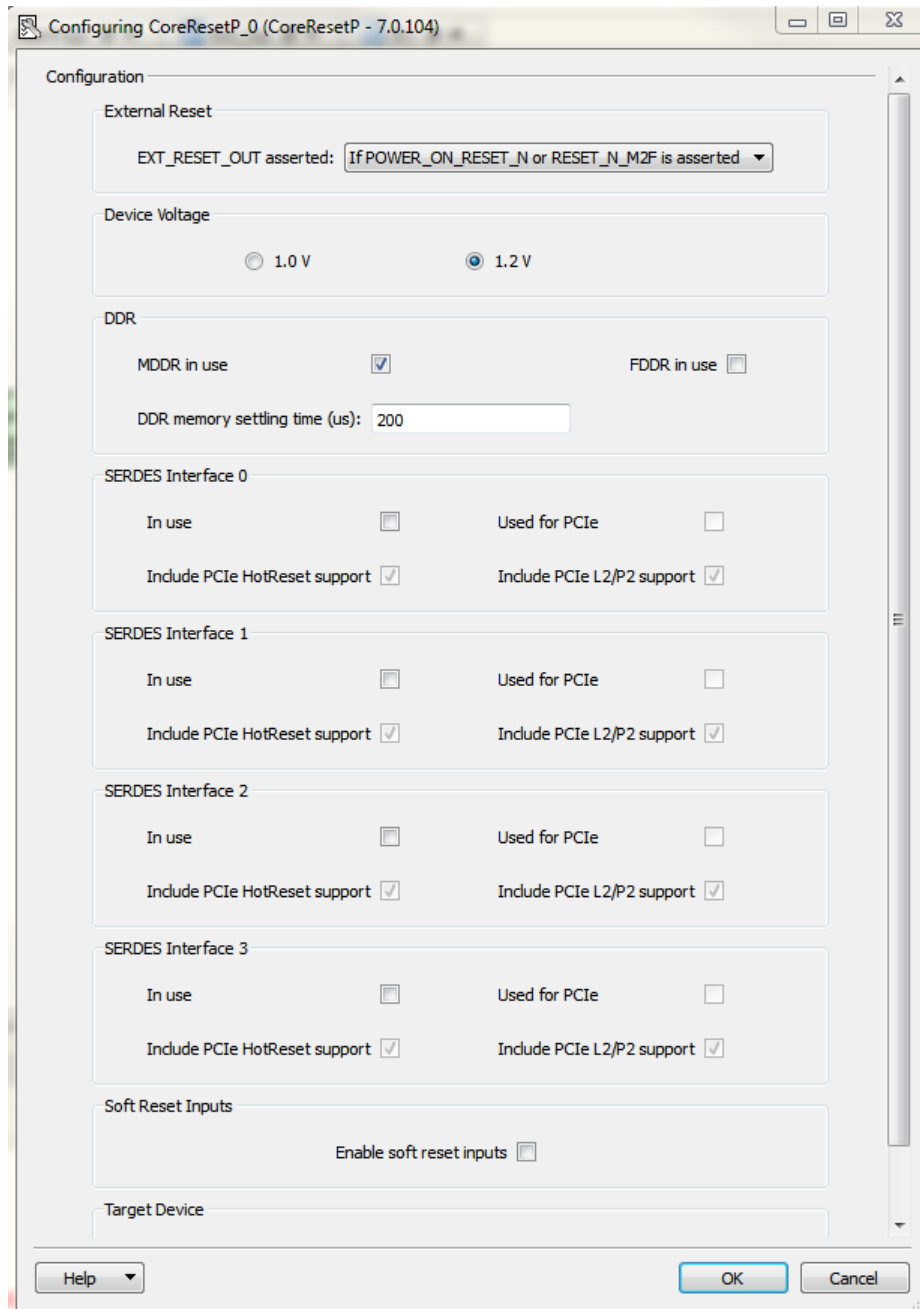

Figure 38. CoreResetP Configurator
2. Double-click the core inside the SmartDesign Canvas to open the Configurator (Figure 38 – CoreResetP configurator)